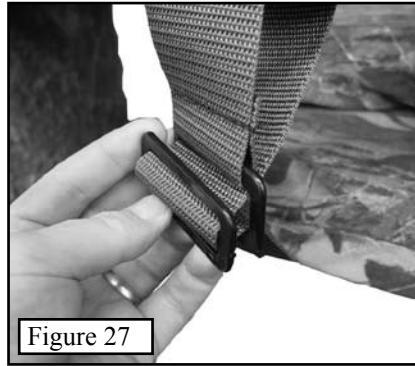

Figure 27
**Step 5.** Position your safety harness to minimize the amount of slack in the safety line then carefully sit down. The treestand seat will provide maximum comfort when the seat pad is near horizontal rather than tipped down in the front. The seat height can be easily raised (for bow hunting) or lowered (for gun hunting) by adjusting the two piece buckles up or down the webbing See *Figure 27*.